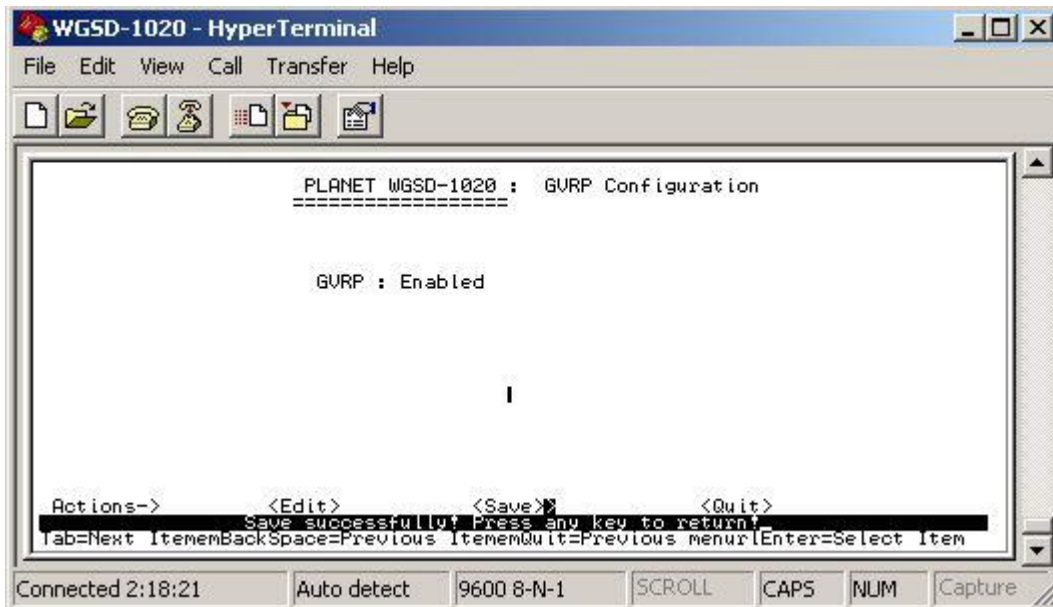

Figure 4-63 GVRP save successfully screen
2. After setup completed, press” **Ctrl-A**” to “**Action menu**” and choose “**save**” to save the current configure. The screen in Figure 4-63 appears.